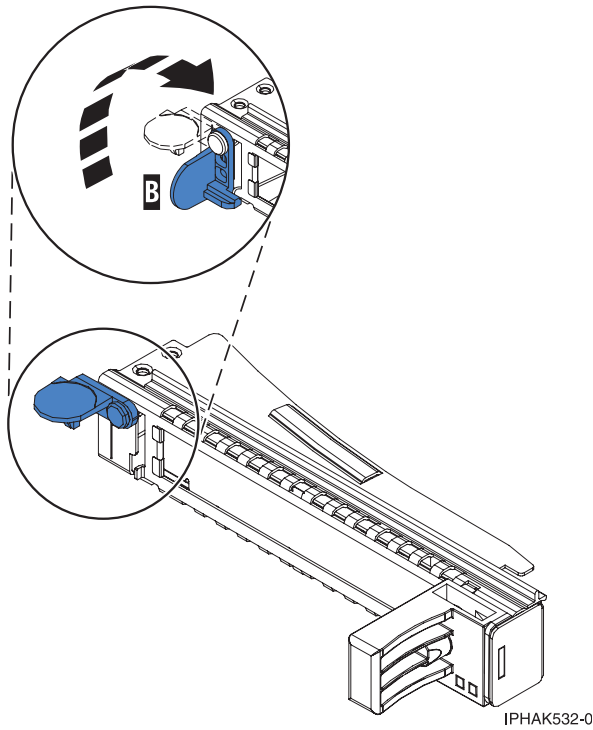

Figure 6. Opening the tailstock clamp
- a. To unlock the filler tailstock, rotate the latch (**B**) at the tailstock end of the cassette as shown in Figure 6 on page 7.